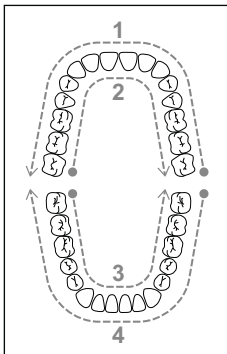

Fig. 10
- ◆ You can use the image below as a guide for the order of cleaning (see Fig. 10). The numbers in the image indicate the order in which to clean the different areas: